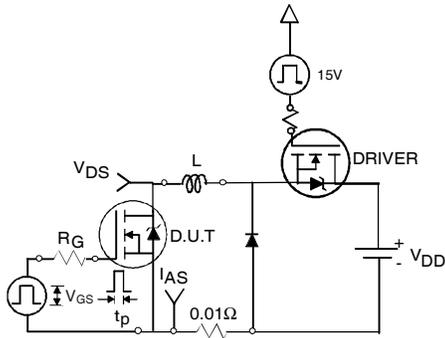

Fig 12a. Unclamped Inductive Test Circuit
- ③ Pulse width ≤ 1.0ms; duty cycle ≤ 2%.
- ④ C_{oss eff.} is a fixed capacitance that gives the same charging time as C_{oss} while V_{DS} is rising from 0 to 80% V_{DSS}.
- ⑤ Limited by T_{Jmax}, see Fig.12a, 12b, 15, 16 for typical repetitive avalanche performance.
- ⑥ This value determined from sample failure population. 100% tested to this value in production.
- ⑦ This is applied to D²Pak, when mounted on 1" square PCB (FR-4 or G-10 Material). For recommended footprint and soldering techniques refer to application note #AN-994.
3. Equation below based on circuit and waveforms shown in Figures 12a, 12b.